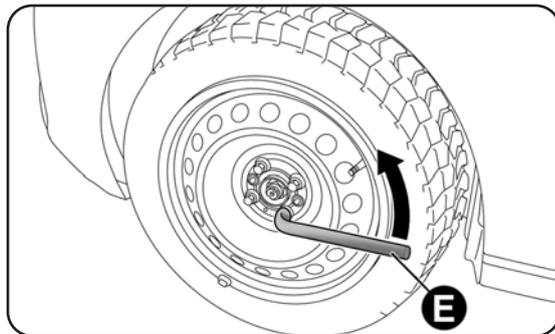

fig. 11
- loosen the fixing bolts for the wheel to be changed by about one turn using the spanner provided E-fig. 11;